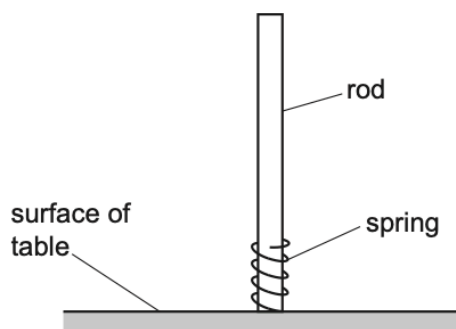

Fig. 3.1 (not to scale)
- 9 A vertical rod is fixed to the horizontal surface of a table, as shown in Fig. 3.1.